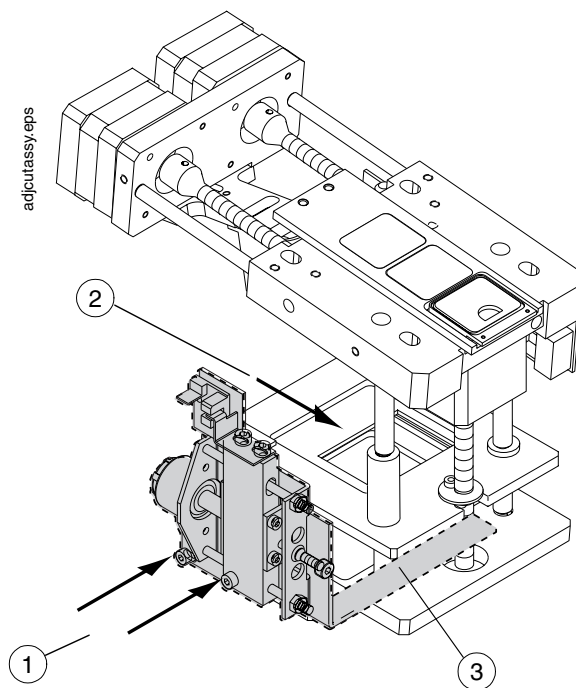

Figure F.9
- e) The adjustment of the X-ray beam front edge is performed by adjusting the cutter assembly. Loosen the cutter assembly screws (Fig. F.9, 1) and move the assembly forward as far as it goes (Fig. F.9, 2) to make sure that the cutter does not limit the beam front edge (Fig. F.9, 3).